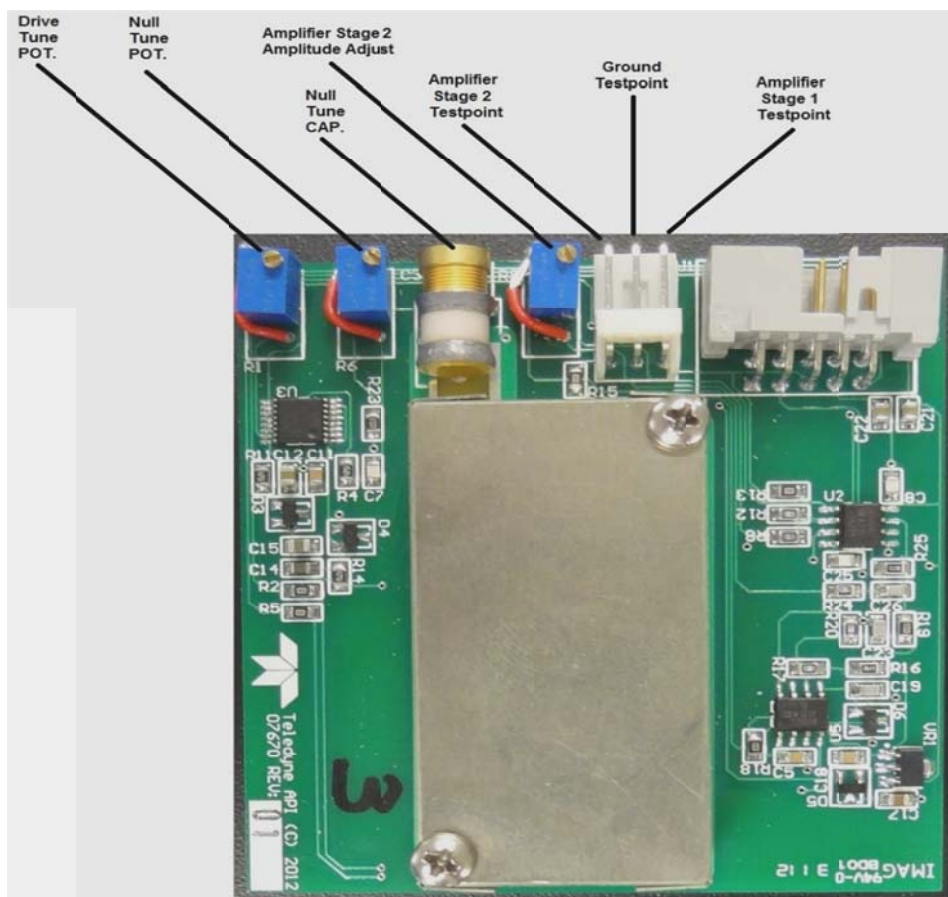

Figure 10
14. Connect channel 1 of the oscilloscope to “Amplifier Stage 1 Testpoint” and channel two of the oscilloscope to “Amplifier Stage 2 Testpoint” as shown in Figure 10.